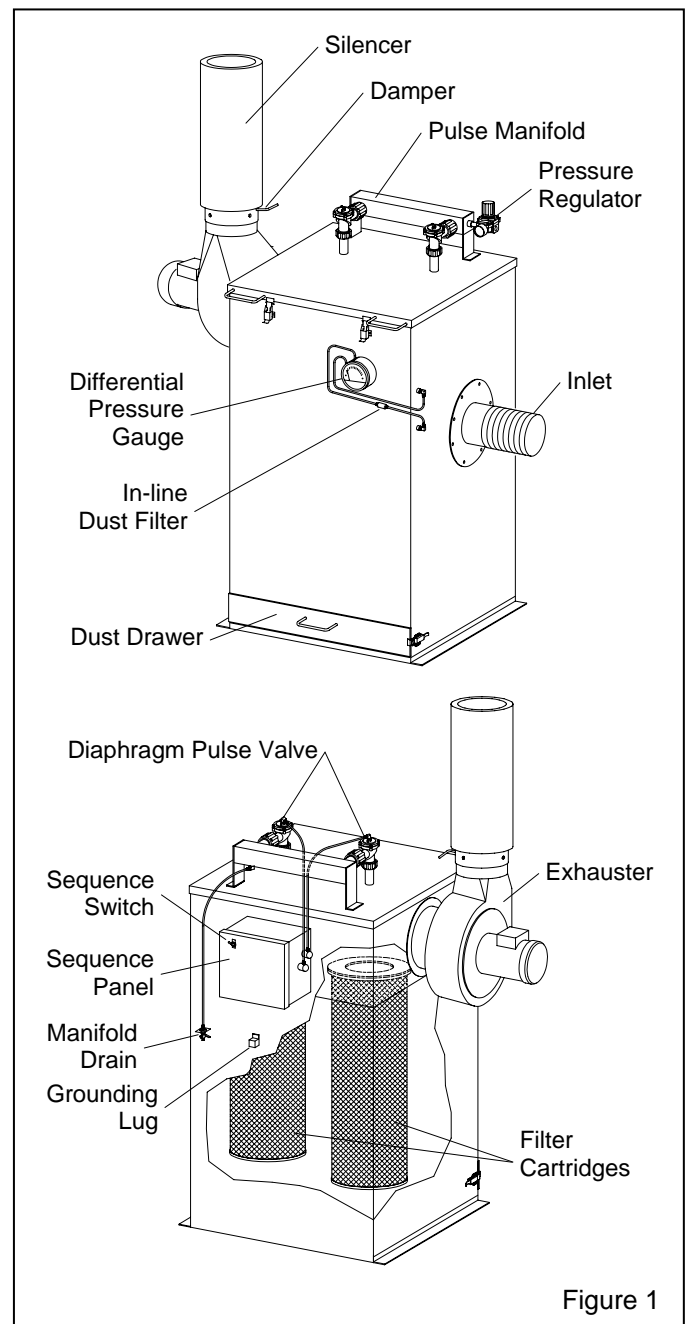

Figure 1
1.3.1 RPC-2 Dust Collectors are dry, reverse pulse jet cartridge collectors, used to ventilate abrasive blast cabinets and remove dust from exhausting air. Figure 1 shows a typical arrangement and call-outs used in the manual.
**3.3.4** Drain the pulse manifold whenever the compressed air supply is turned off. The drain petcock is mounted on the side of the collector. See Figure 1.